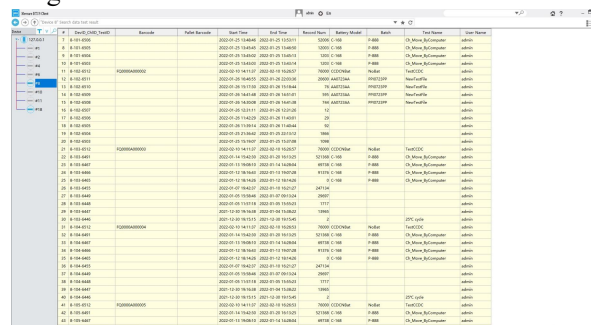

Figure 4-4 Search result setting
- Fuzzy search: Click the search button , fuzzy search is used to display channel data information for all online devices under the current mid-machine. You can perform operations on the search results as required, as shown in Figure 4-4: